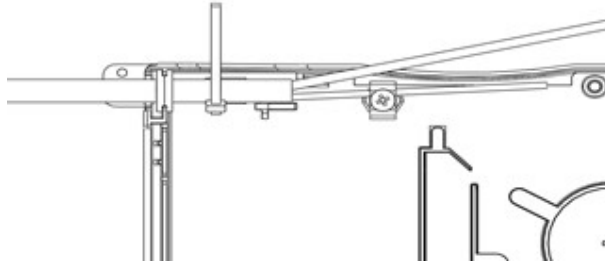

Fig. 16
3.2.5. Finally, pass a cable tie through the cable holder hole (Fig.16). Tighten the cable tie to secure the cable.